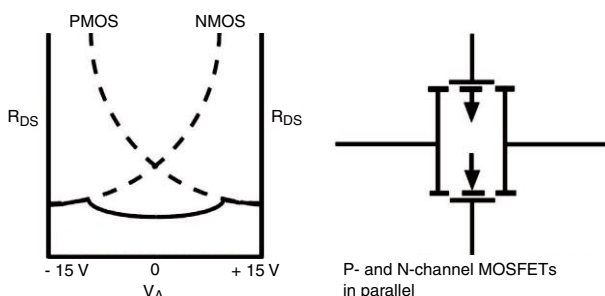

Figure 1.
CMOS analog switches and muxes have as their switching element an n-channel MOSFET in parallel with a p-channel MOSFET, the combination offering the classic bathtub resistance response as shown in figure 1. However, as a consequence of parasitic capacitances between Gate and channel - C_{gs} and C_{gd} - and because of the swiftness of the transitional gating voltage that actuates the MOSFETs, a charge is coupled to the channel resulting in voltage spikes on the signal, exiting the switch or mux at both its input (S) and output (D). The magnitude of these spikes is dependent on several factors: the speed (frequency) of the gate voltage pulse; and the size of the parasitic gate-to-channel capacitances, and of course the load capacitance, C_L . Although attempts have been made to calculate the magnitude of these spikes, because of the nonlinearity of C_{gs} and C_{gd} , we find that the optimum means of determining Charge Injection, Q_{INJ} is by measurement. Hence this Manual.